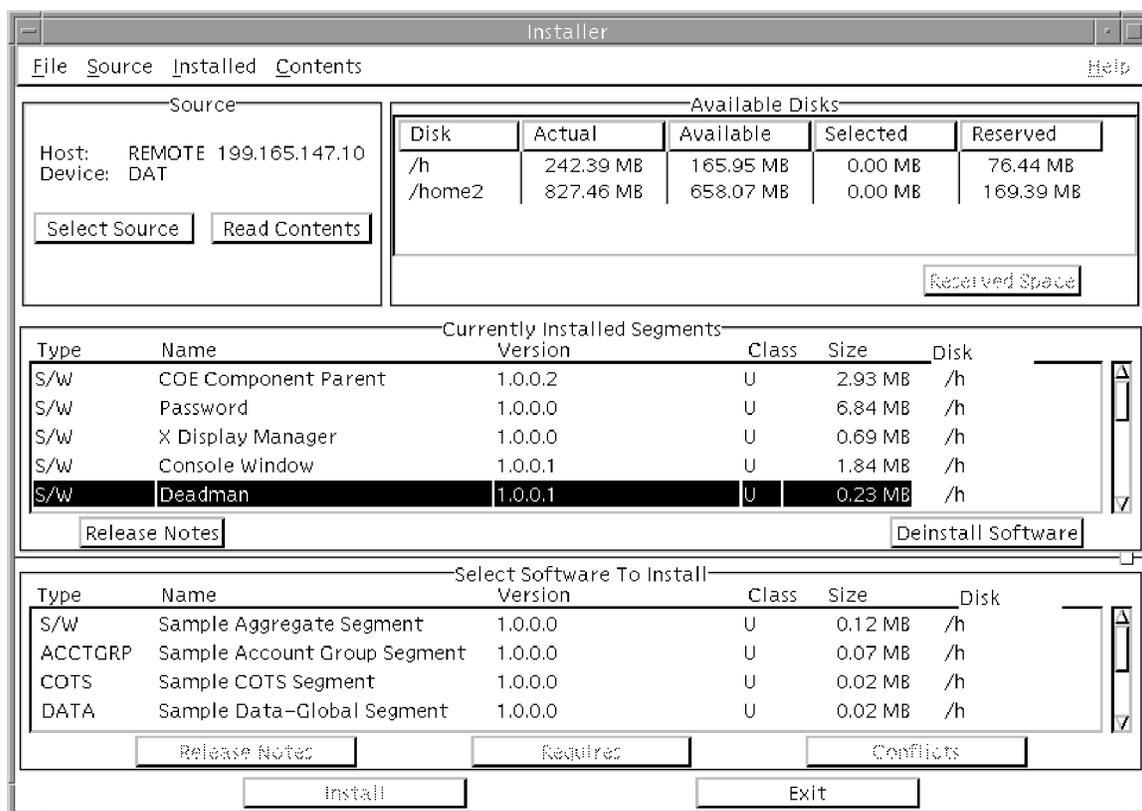

Figure 15. Installer Window with Select Software To Install Panel
Used to read the table of contents of the selected installation device. Click on a segment listed in the `Installer` window to highlight it and then click the `Read Contents` button. The media will be scanned for the segments that it contains, and then the `Installer` window will add the `Select Software To Install` panel, which lists the segments that the media contains (Figure 15). Any number of segments may be selected in this panel for installation. See Section 6.3.1.3, *Installing Segments*, for additional information about the segment installation process.
- STEP 2: Read the table of contents of the selected installation device.** Click on the `Read Contents` button in the `Source` panel. The media will be scanned for the segments that it contains, and then the `Installer` window will add the `Select Software To Install` panel, which lists the segments that the media contains (Figure 15). Any number of segments may be selected in this panel for installation.